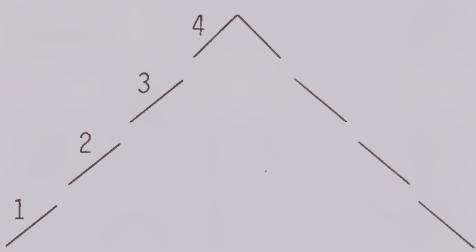
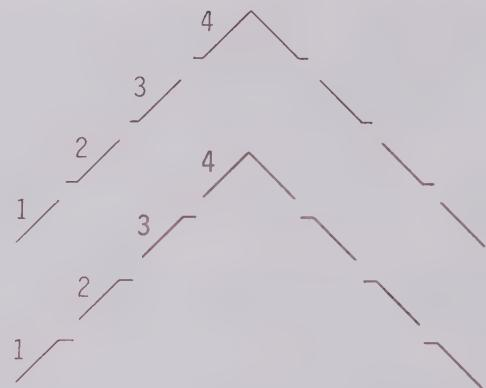

Figure 5 - Misaligned Gain
Figure 6 - Misaligned Offset
Discontinuities in the digital output signal will occur when misalignments of the Gain (Figure 5) and/or Offset (Figure 6) are present.
- a. Observe the waveform for separations similar to those illustrated in Figure 5 (Misaligned Gain) and/or Figure 6 (Misaligned Offset).